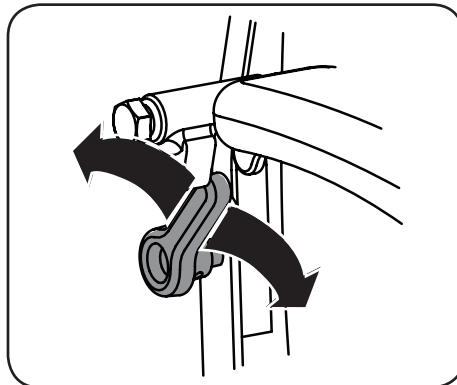

Figure 2-15
2. Remove the red boot (d), if present, from the positive battery terminal (a) and attach the red cable (c) to the positive battery terminal (a) with the bolt (e) and hex nut (f). See Figure 2-15.
4. Attach the black cable (g) to the negative battery terminal (b) with the bolt (e) and hex nut (f). See Figure 2-15.